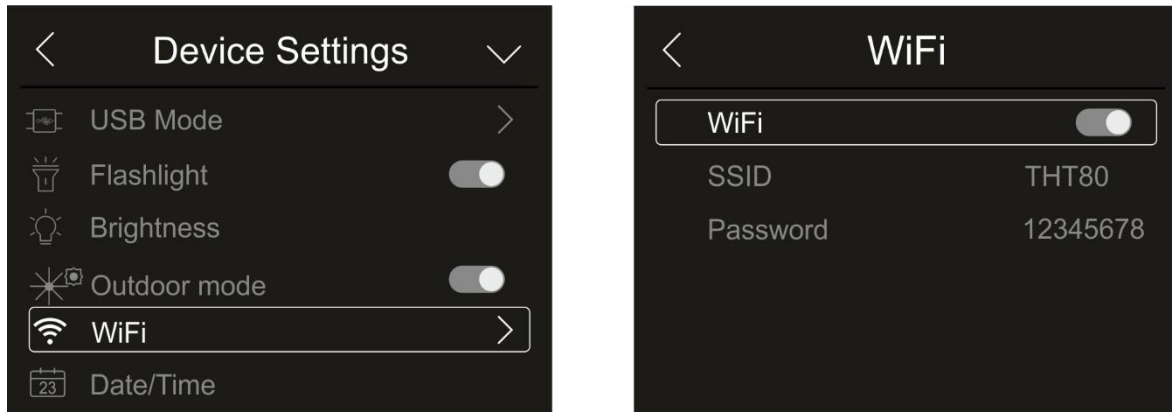

Fig. 17: Activation of WiFi connection
1. Touch the item “WiFi” to enter the section for the activation/deactivation and customization of the instrument's WiFi connection. The screen in Fig. 17 – right side appears on the display.